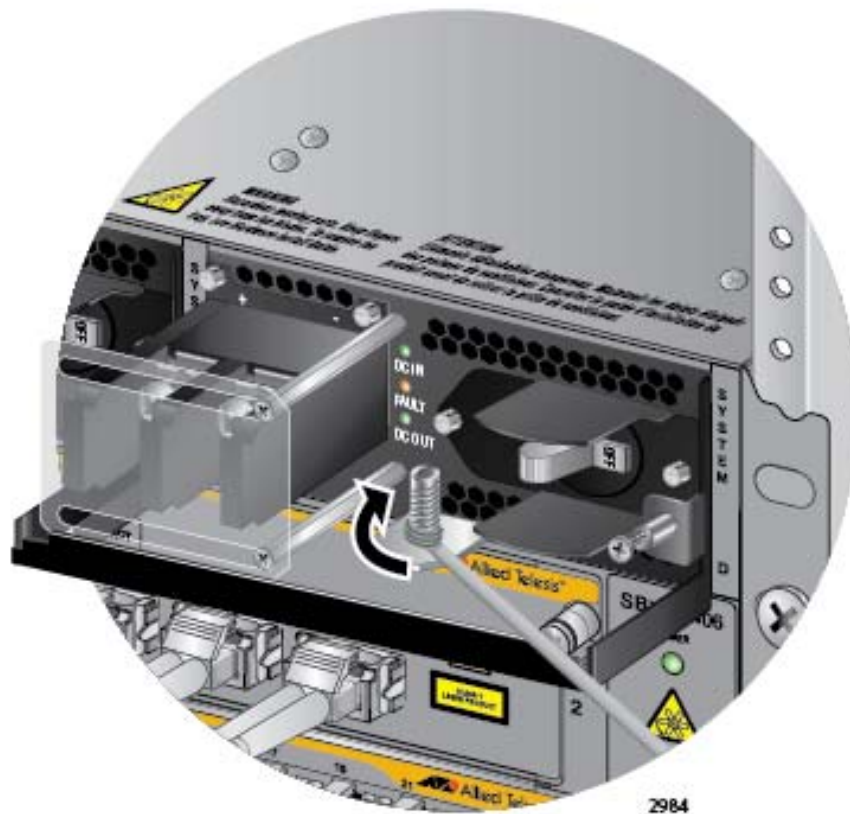

Figure 104. Attaching the Bare Grounding Wire to the Grounding Post
3. Wrap the grounding wire clockwise around the base of the grounding post, as shown in Figure 104.